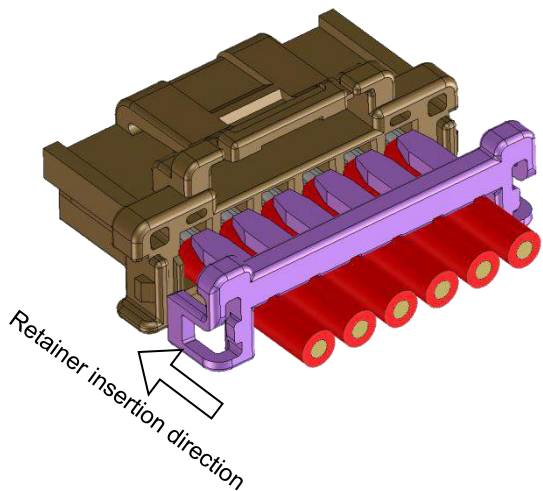
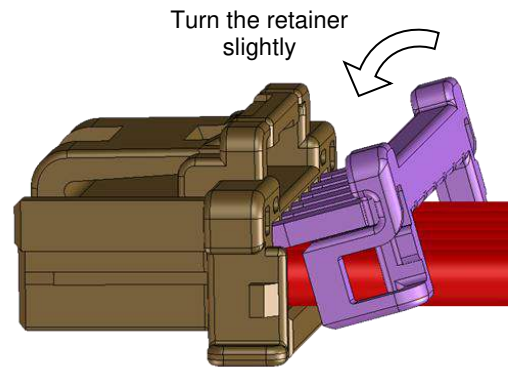

Fig.6-7
Fig.6-8
- ① Hold the receptacle housing and the retainer by pinching right and left side.
- ② Insert the retainer from the direction indicated at **Fig.6-7**. It makes easier to insert that the retainer's comb is along wires. (**Fig.6-8**)